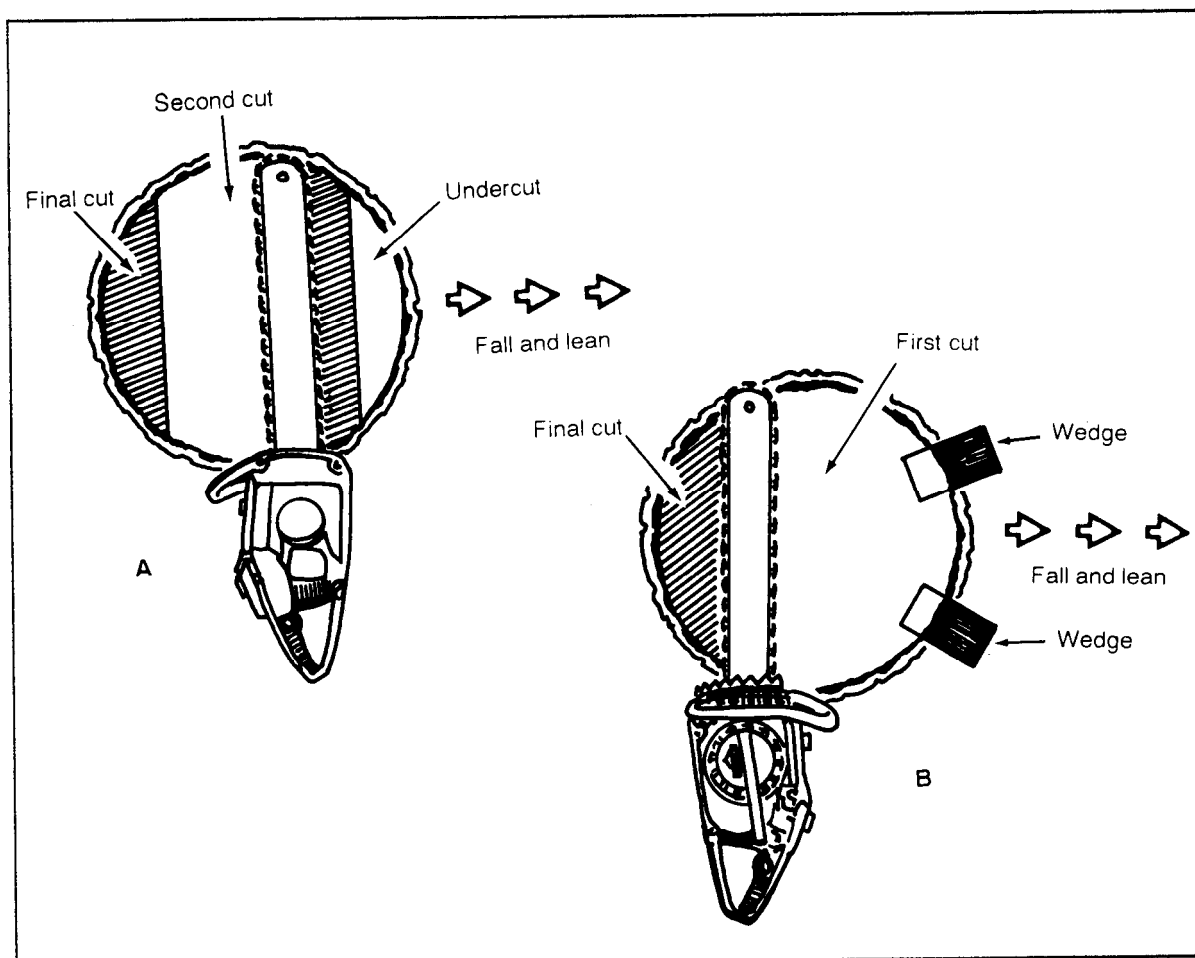

Figure 5-11. Special chain-saw techniques
- Method One. Make an undercut, either the traditional or the Humboldt type. Instead of starting the back cut from the rear of the tree, start it with a boring cut several inches in from the back side. Continue the cut forward, leaving just the hinge to the rear of the undercut, and then go backward, leaving only two or three inches uncut at the rear. Pull out the saw and slice away the uncut fibers to allow the tree to fall (Figure 5-11, A).
- Method Two. Make a straight cut into the tree from the side toward which it will fall, about two-thirds through the trunk (Figure 5-11, B). Drive wedges in behind the saw when you feel the tree starting to pinch. After making the cut, remove the saw and complete the cut from the backside. Stay alert in anticipating the tree's fall; be ready to get out of the way. Tree-butt kickbacks are common with this method.